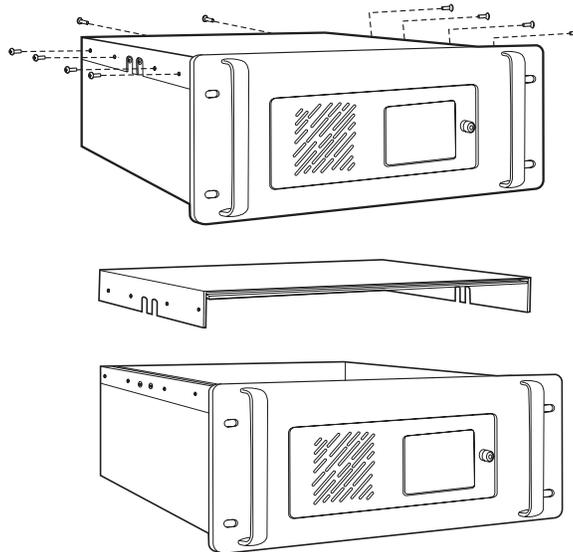

Figure 36. Removing the CC1 Top Cover
2. Remove the top cover of the CC1. Refer to Figure 36.